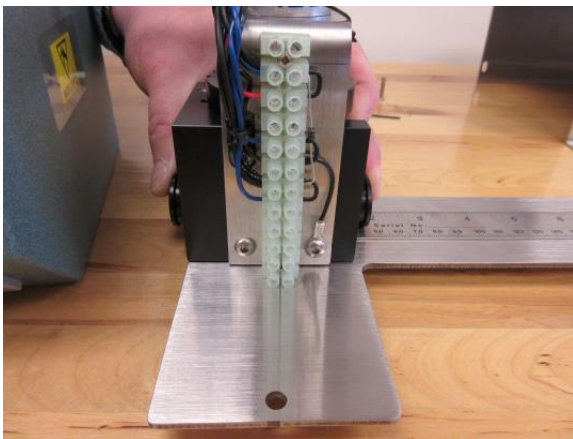

Figure 3.2.6
- Insert bushings into knife block and squeeze bushing together to sandwich blade between the bushings. *Figure 3.2.6*